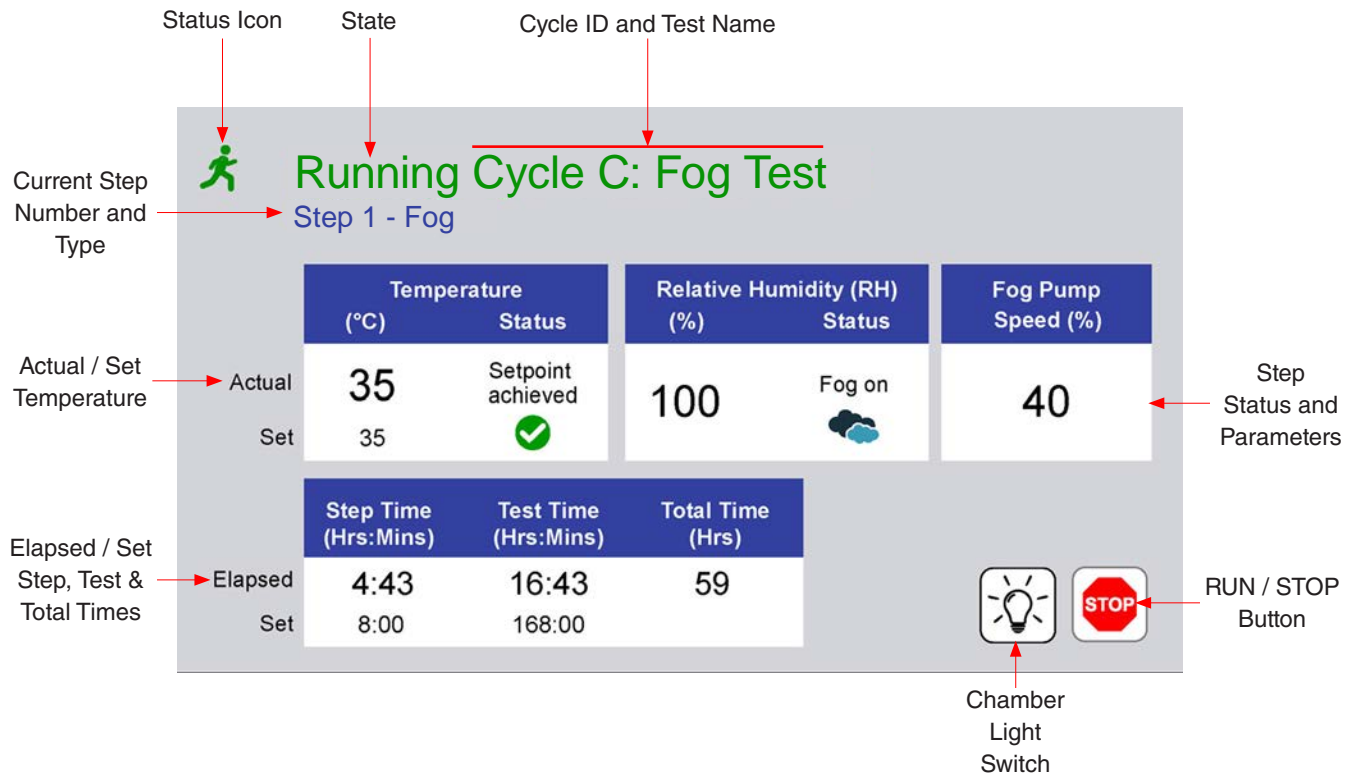

Figure 9.2a: Status Screen display identifying display elements.
- The Status Screen examples (Figure 9.2a through Section 9.2) display: